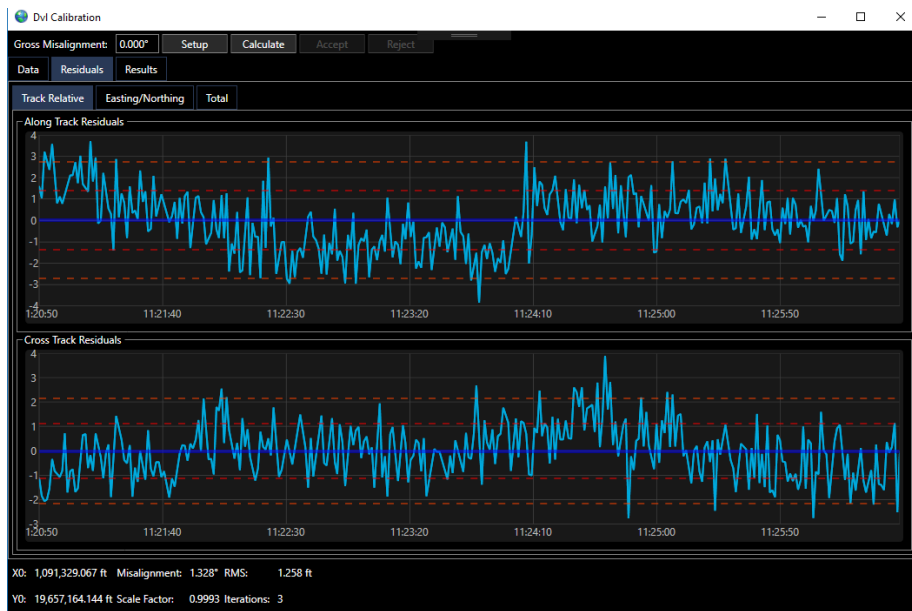

FIGURE 14-141 DVL CALIBRATION - TRACK RELATIVE RESIDUALS TAB
- Track Relative** residuals refer to data points relative to the trajectory of the vehicle, along track and cross track (see Figure 14-141)